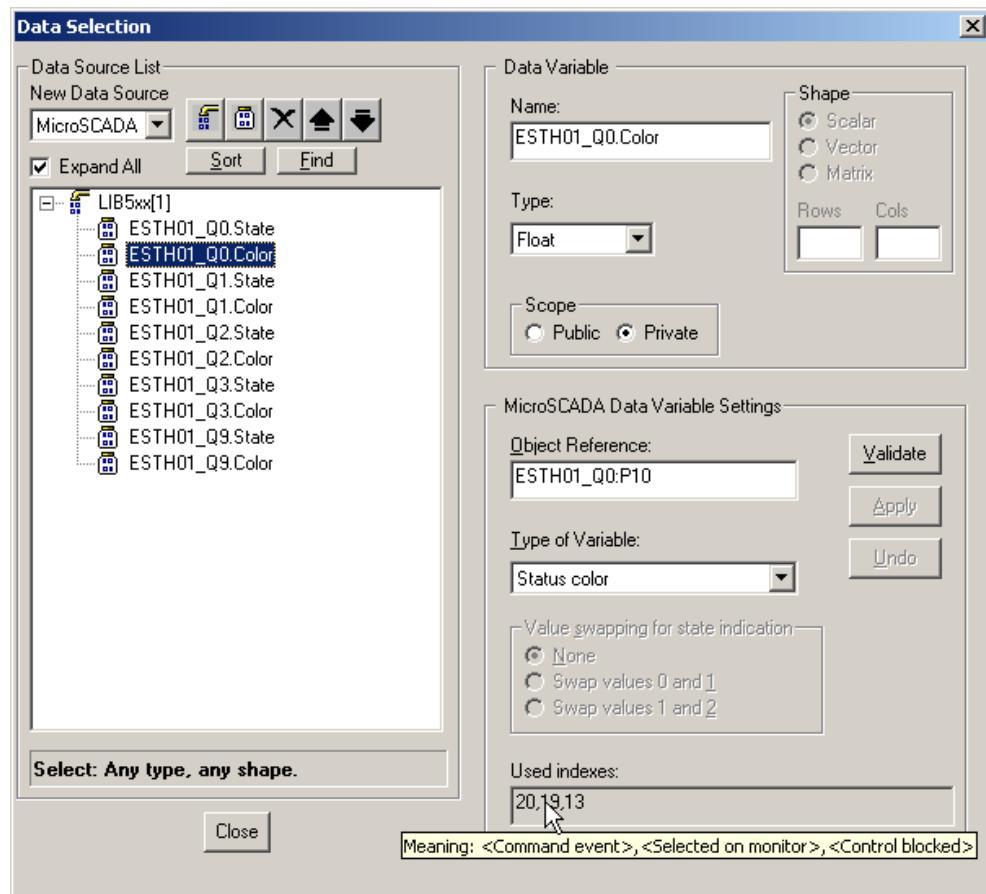

Figure 108: Ensuring that data variables are updated correctly
4. Ensure that the indexes were updated correctly, see Figure 108.